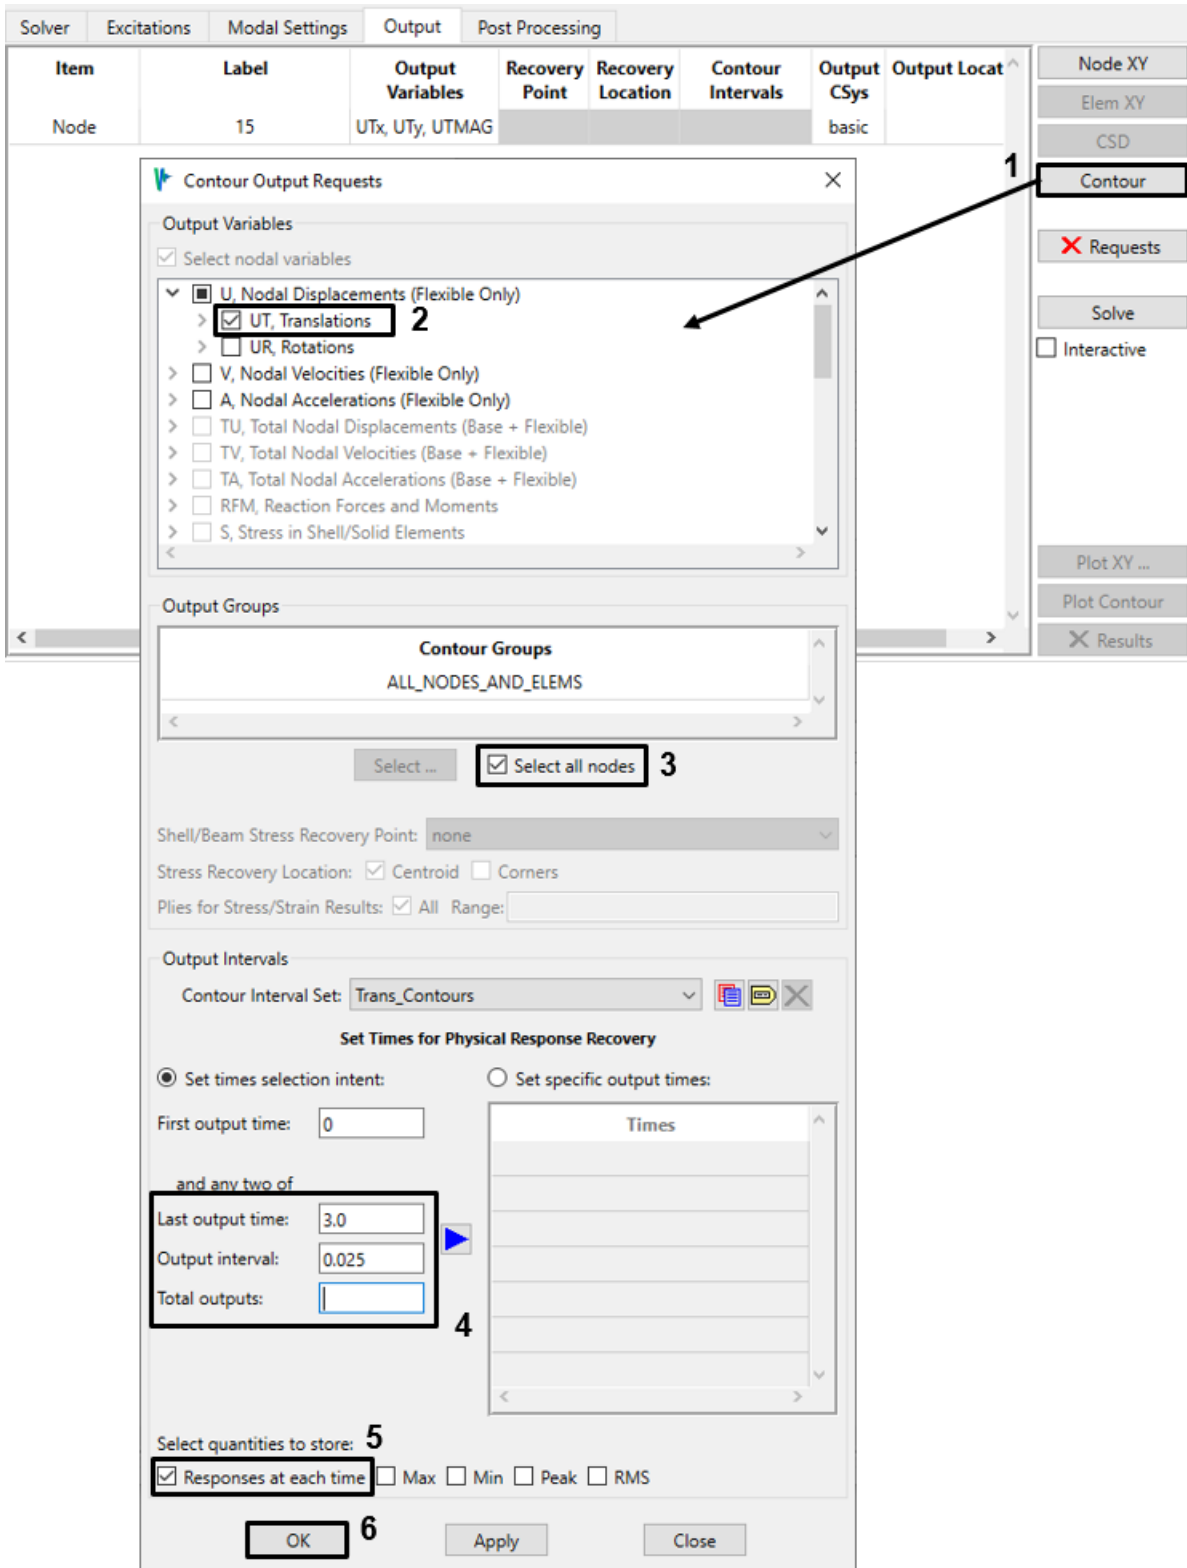
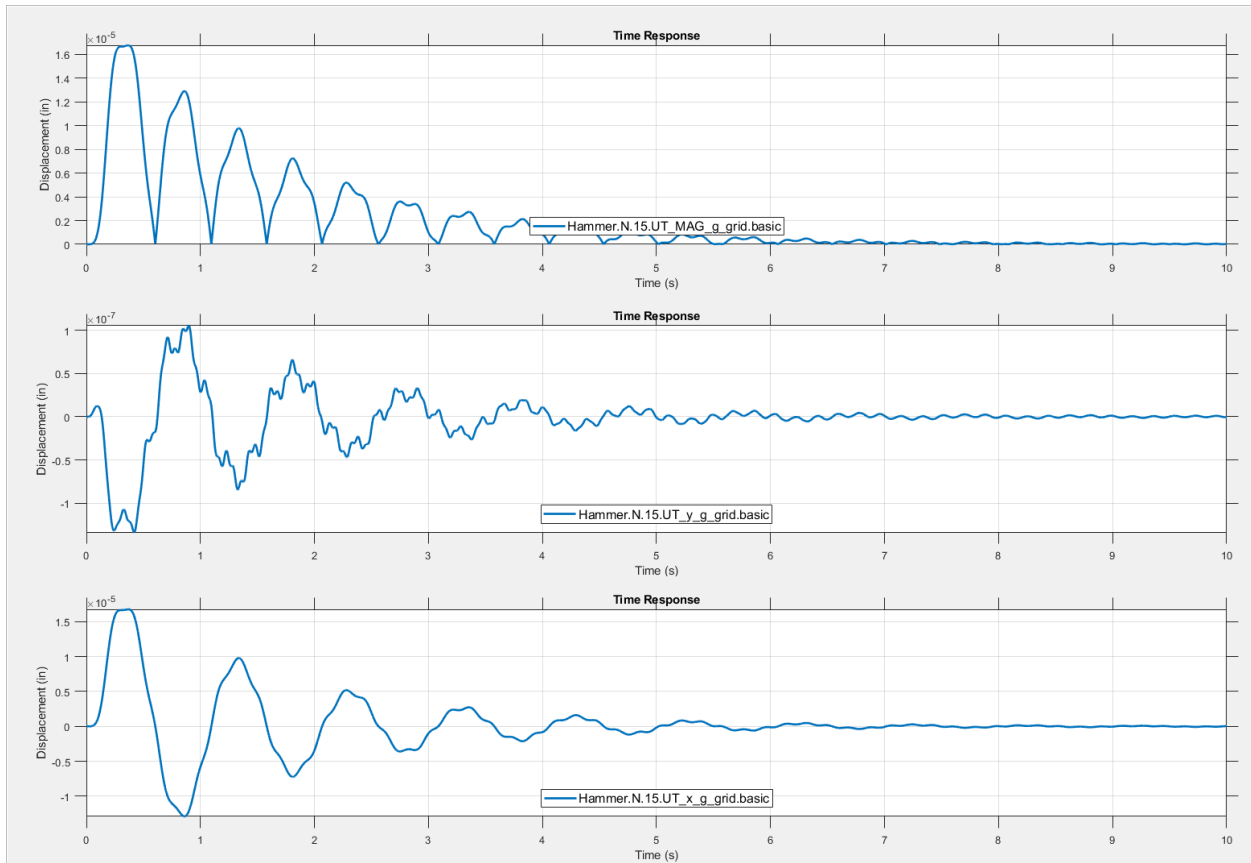

Figure 4-119. Request displacement (*UT*) contours for the first 3 seconds of the event.
Figure 4-120. Transient displacements for node 15.
- In order to create an animation of the structure in motion, create a contour request for displacement ( $UT$ ) at all nodes (Figure 4-119). Enter 0.0 for the *First output time* and 3.0 for the *Last output time* to create contours from 0.0 to 3.0 seconds. We have selected 3 seconds as the end time because the structure's response will decay to about 30% of its maximum by then (see Figure 4-120). Set the *Output interval* to 0.025 (seconds) and leave *Total outputs* blank. This will produce 121 time frames for
- Solve the event. Click the **Plot XY** button to view the requested nodal displacement histories. These are shown in Figure 4-120 using the *stacked* plot mode. Note the different orders of magnitude on the Y-axis labels.